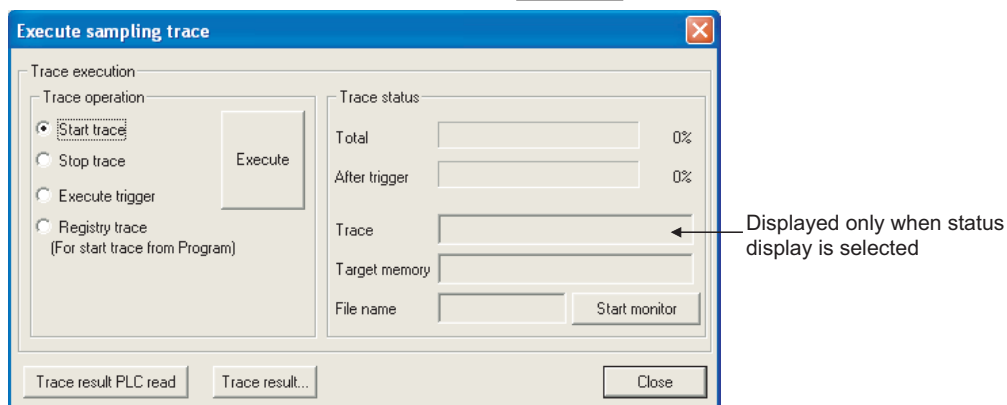

Figure 6.70 Execute sampling trace screen
- 1) Click the **Trace result PLC read** button on the screen shown in Figure 6.70 to read trace results.
- Click the Trace result PLC read button on the screen shown in Figure 6.70 to read the trace result to the personal computer.
- Click the Trace result button on the screen shown in Figure 6.70 to display the trace result.